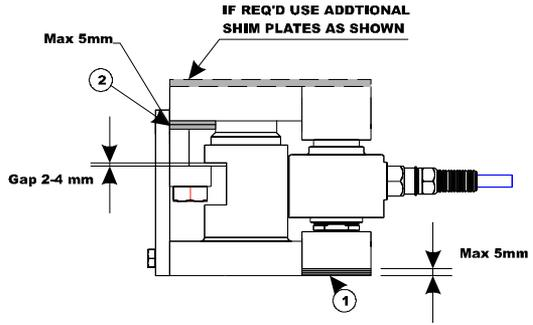

FIG. 8: SHIM STOCK SIDE VIEW
- Step 6. If you need to shim the load point assemblies to make them level with each other, do the following: (See Fig. 8)
2. Shim (maximum 5 mm) in one corner with circular shim washers (Item 1). If required, shim a maximum of an additional 5 mm in the diagonally opposite corner. Add washer (Item 2) as required to maintain the gap at the lift off protection. (See Fig. 8)
- For shimming requirements larger than 5 mm, place shim plates sized 160 x 180 mm on top of the weigh module as shown (See Figs. 8 & 9)